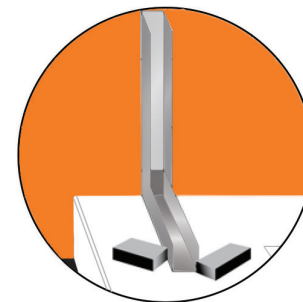

FIG 6.
- Place floor channel in position and press downwards. Remove plastic from stabilizer blocks and stick to base either side of channel to keep in place (FIG 6).